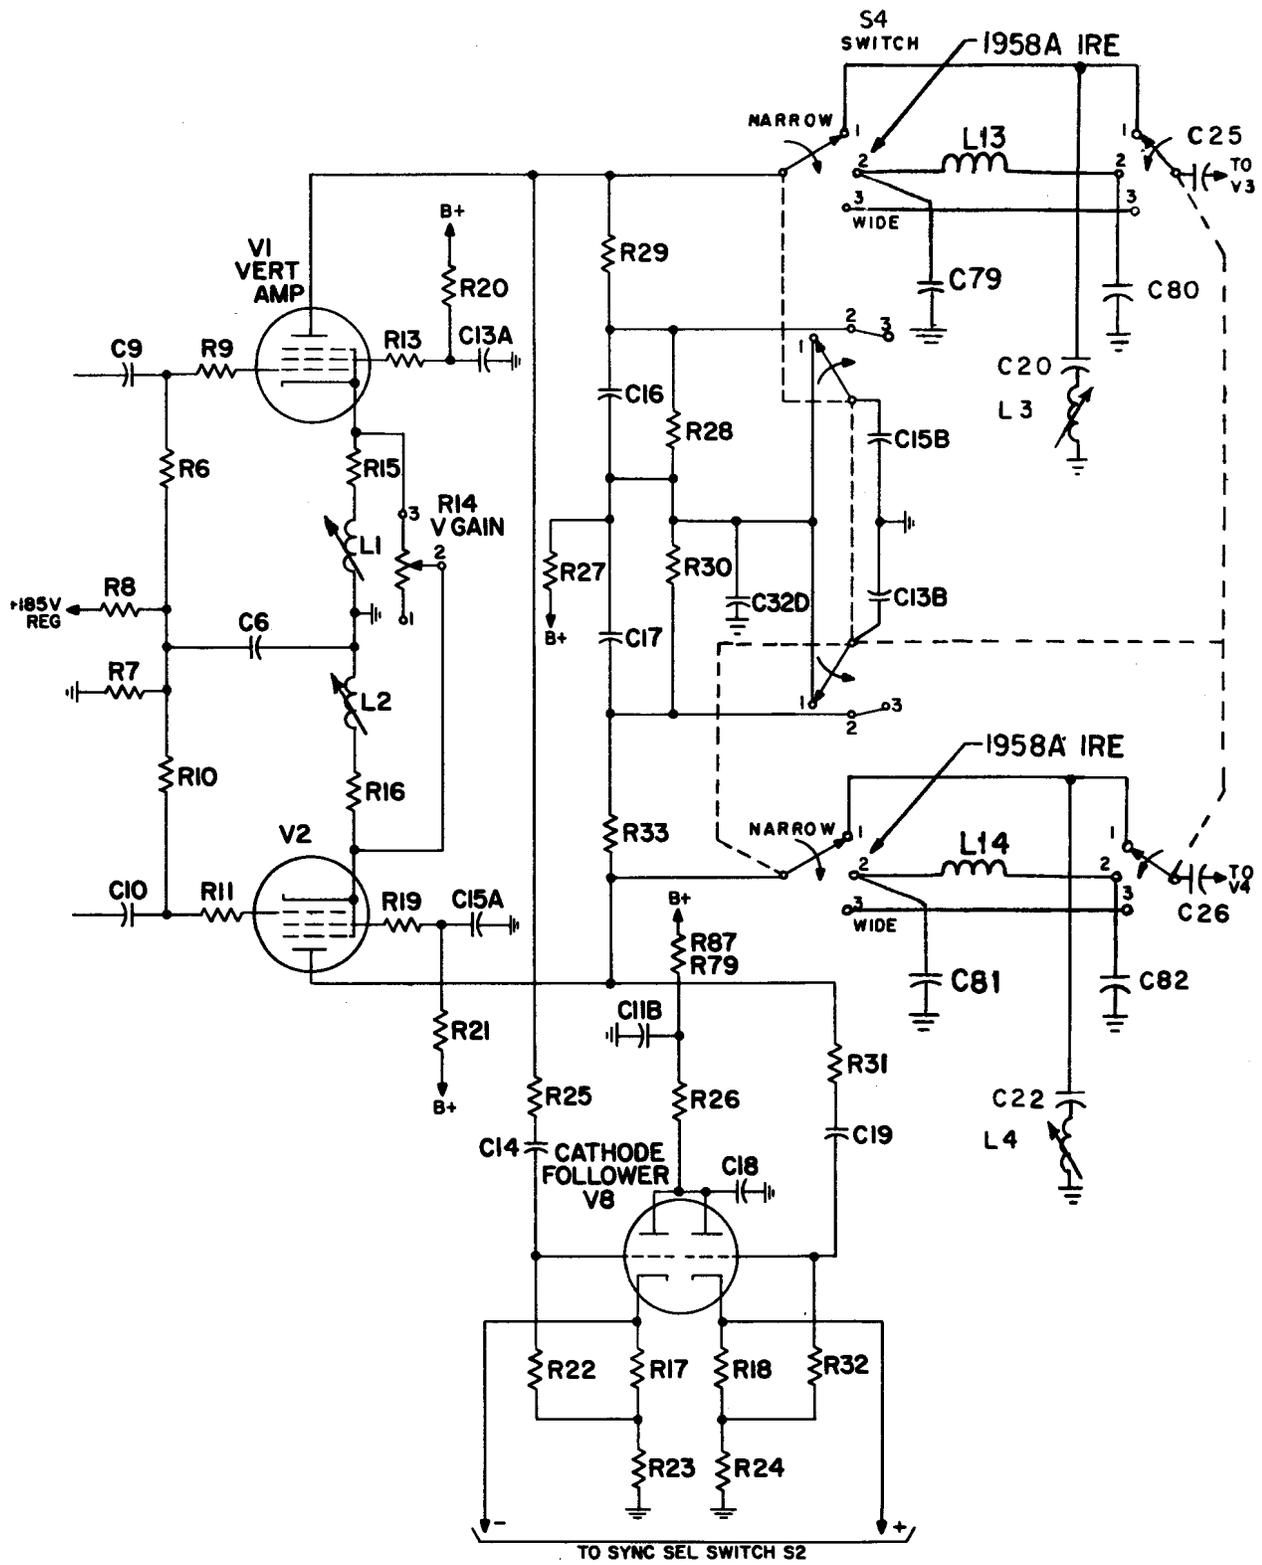

Fig. 6 - KS-15512, List 5 Oscilloscope Vertical Amplifier Input and Sync Separator Cathode Follower Circuits
4.06 (C) Vertical Amplifier Input and Sync Separators Cathode Follower: (See Fig. 6)